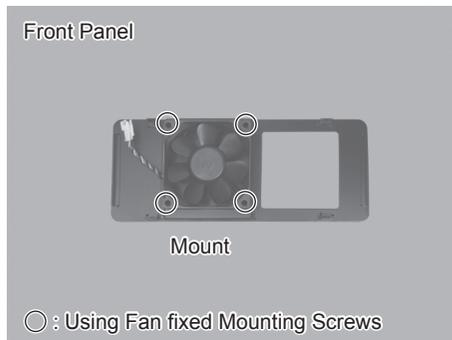

Fig. 47
- (10) Mount the Replacement FAN onto the Case (Front Panel) by using FAN Mounting Screws (4pcs.) (Specified Torque : $0.5N\cdot m \pm 0.1$) (Fig. 47).